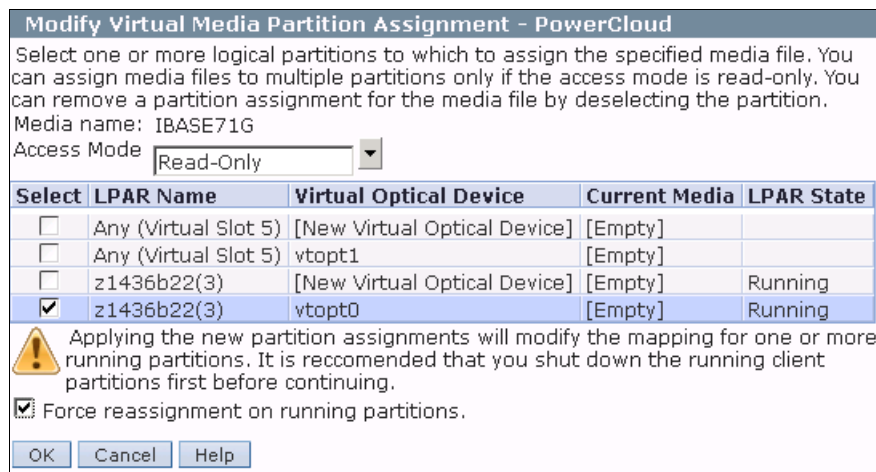

Figure 3-30 Assigning the virtual media
8. Select the partition and virtual optical drive. Select the **Force reassignment on running partitions** option and click **OK**, as shown in Figure 3-30. Use read-only as the access mode to load the image into multiple virtual drives.